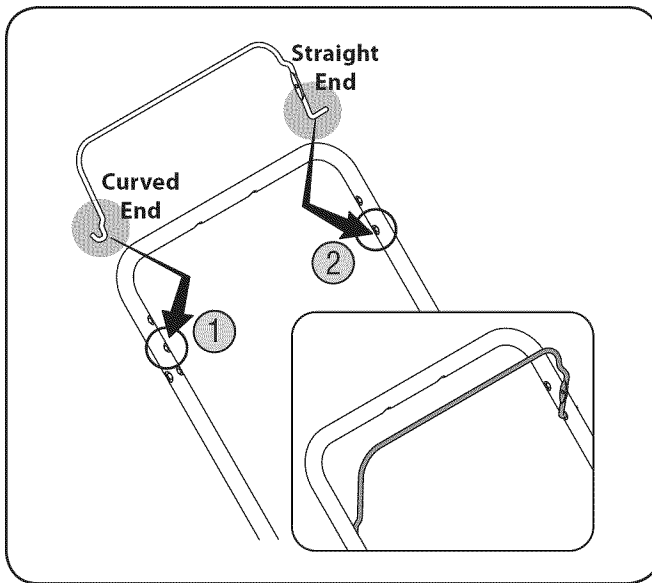

Figure 3-4
1. Insert the curved end of the blade control into the center hole located on the right side of the upper handle. See Fig. 3-4.
2. Gently squeeze the blade control inward and insert the straight end into the lower hole located on the left side of the upper handle. See Fig. 3-4.